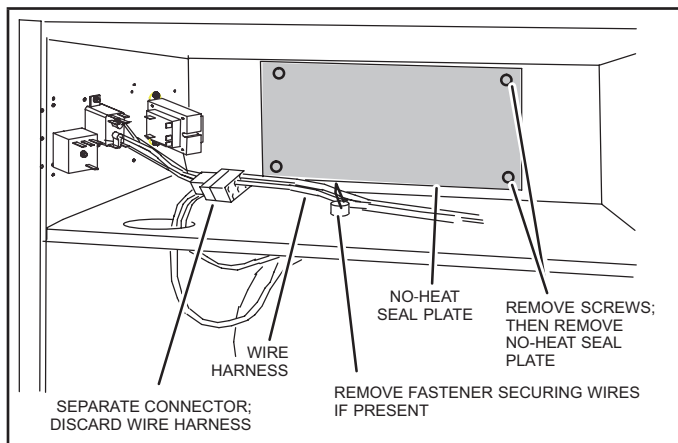

FIGURE 6. Prepare to Install Heat Element
- 3 - Disconnect any existing field supply wires and pull them out of the air handler. Disconnect and remove wiring harness and fastener (see figure 6). If not removed, these items will prevent the heat section's base from resting properly in the compartment.
- 4 - Remove the no-heat seal plate in the air handler frame (see figure 6).